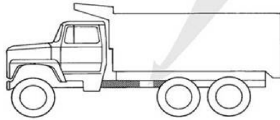

Figure 1
1. Install the Power Take-Off per the instructions provided with the unit you have purchased. The PTO must have a "V" output option which is required for mounting the EX Drive shaft extension. The installation of the PTO will instruct you to place warning labels on the chassis. Note the instructions below for confirmation that the labels have been installed. The two (2) Truck Frame Labels, which measure approximately 4" x 8", are to be placed on the outside of the vehicle frame rail. These labels are to be easily seen by anyone who might go under the truck or near the PTO. One label is to be placed on each side of the vehicle. See Figure 1.